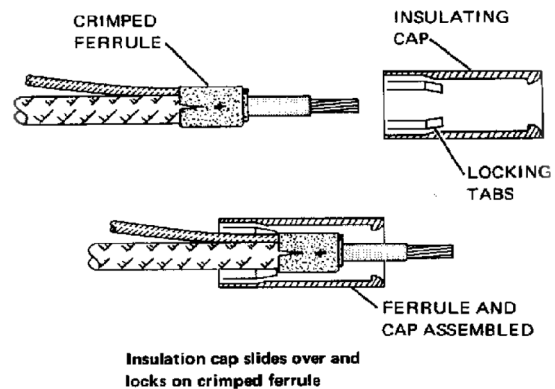

Figure 12
1. Place insulating cap on ferrule as shown in Figure 12.